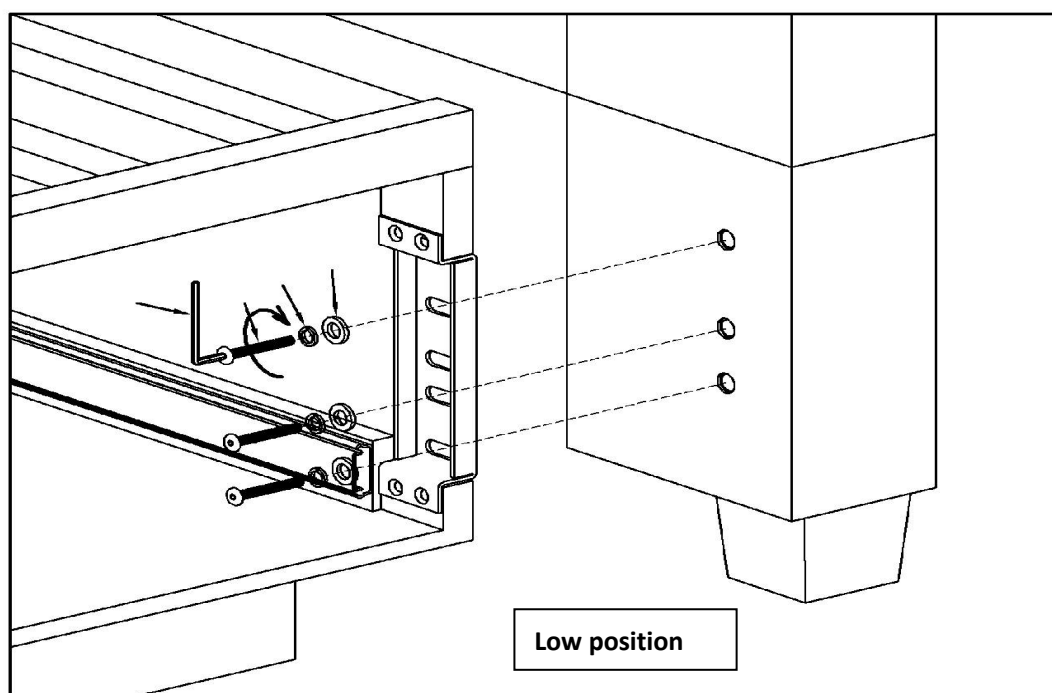

Fig. 5
- The Raleigh, York, and Georgetown headboards use the bracket with slots in the low position (as delivered from the factory). Distance from the floor to bottom hole is approximately 5-1/2". See Fig. 5. If installing a low position headboard, then skip to Step #11. See **Fig. 5**.